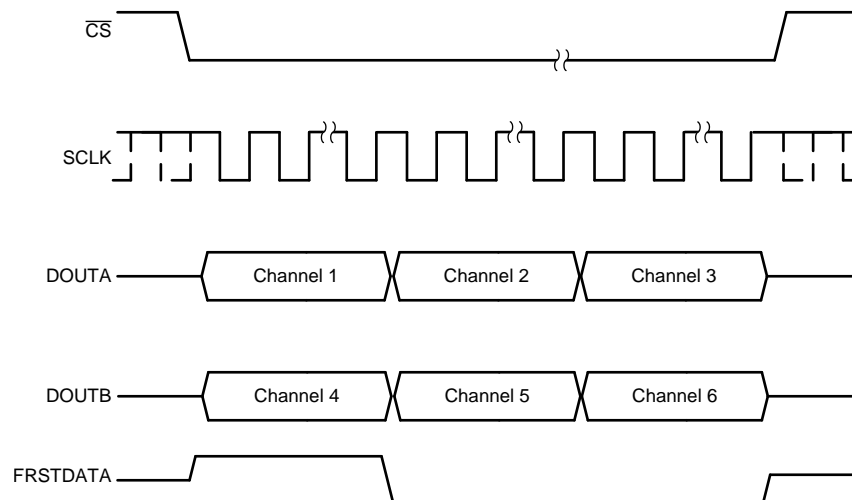

Figure 70. Data Read Back in the Serial Interface Using Both DOUTA and DOUTB Timing Diagram
- In order to minimize the time for the data read operation in serial mode, both DOUTA and DOUTB can be used to read data out of the device. In this case, the conversion results from the first set of channels (channels 1-3 for the ADS8586S) appear on DOUTA and the conversion results from the second set of channels (channels 4-6 for the ADS8586S) appear first on DOUTB. To read the data for all channels, provide a total of $16 \times 3 = 48$ SCLK cycles for the ADS8586S. This entire data frame can be created within a single \overline{CS} pulse or each group of 16 SCLK cycles can be individually framed by the \overline{CS} signal. Figure 70 shows an example timing diagram.